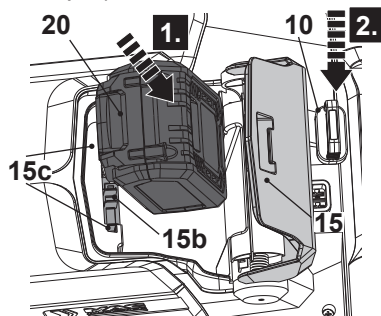

Fig. 9
3. Slide the battery pack (20) into the slot (15c) (Fig. 9, step 1).
5. The battery pack (20) can only be installed in one direction.
6. Close the battery cover (15).
7. Reinstall safety key (10) to its slot (Fig. 9, step 2).